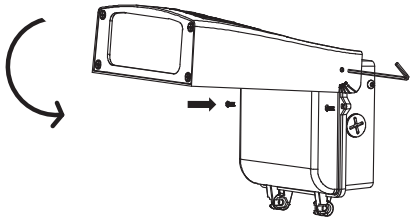

Figure 6
- Close and secure the driver box, by screwing back the driver box screws. Adjust back the luminaire head to downward position. (Figure 6)